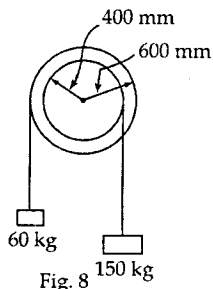

Fig. 8
- (b) The compound pulley system has a mass of 40 kg and a radius of gyration of 450 mm. Determine the tension in each cord and the angular acceleration of the pulleys when the masses are released. Ref. fig. 8.